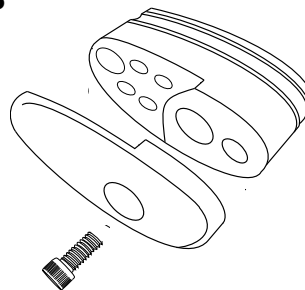

Fig. 9
11. Fit your selected pad into Wing clamp and Wing mount by aligning pads and pressing into place. Repeat for other Biplane clamp (Fig. 9)